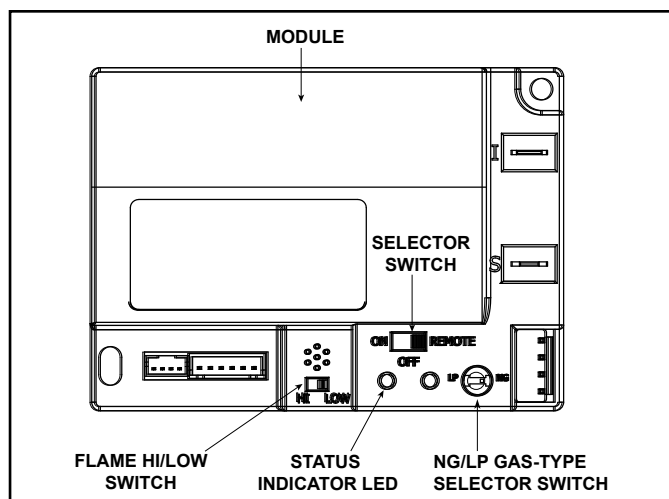

Figure 8.3 Control Module
1. The control module has an ON/OFF/REMOTE selector switch that must be set. See Figure 8.3.
2. If using a wired wall switch with the module in REMOTE mode, the flame output can be adjusted with the HI/LO selector switch on the module. See Figure 8.3. Note that the flame HI/LO selector switch will become inactive once an optional remote control (RC200/RC300) is programmed to the control module. Note that the control module will always ignite the fireplace on HI and remain so for the initial 10 seconds of operation. If the HI/LO is switched to the LO position, the flame output will automatically drop to the lowest setting after the flame has been established for 10 sec. After this 10 second period, the flame can be adjusted from HI to LO with the switch.
- Locate the module selector switch. (See Figure 8.3).
- Wait five (5) minutes to allow possible accumulated gas to clear.